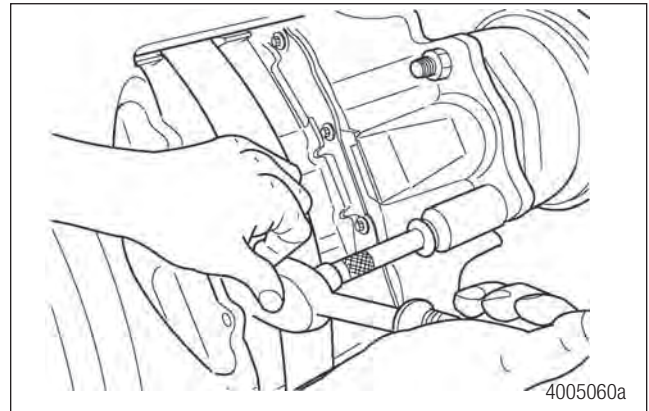

Figure 9.1
1. Remove the service chambers. Mark the air hoses for reference during reassembly. Carefully remove the air hoses from the air chamber. Use the correct wrench to remove the air chamber nuts and washers. Figure 9.1.